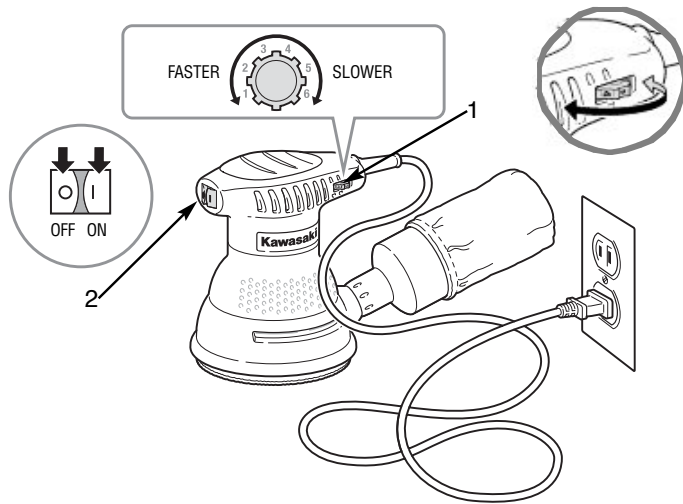

FIGURE 4. USING THE ORBIT SANDER
To run the Orbit Sander at its slowest speed, turn the speed control switch wheel(1) to #1 or clockwise (see Figure 4). To run the Orbit Sander at higher speeds, turn the speed control switch wheel to a higher number on the wheel or counter-clockwise. The Orbit Sander will be running at full speed when the wheel is set at #6.
To turn the Orbit Sander ON, push the left hand side of the switch (2) until the sander starts. To turn the Orbit Sander OFF, press the right hand side of the switch (see Figure 4).